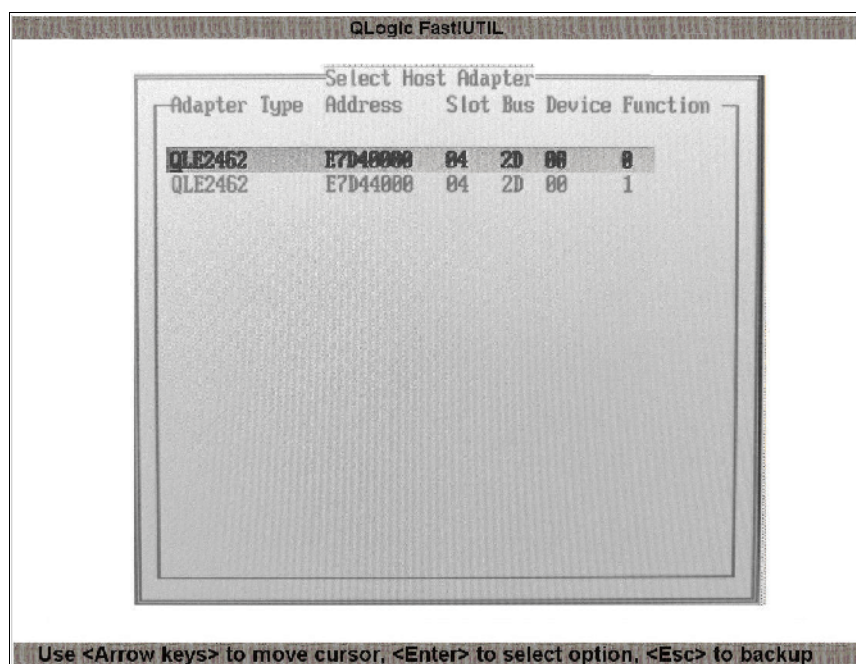

Figure 26-2 Select the FC HBA port
1. To enter Fast!UTIL, power the host server on and press Ctrl+Q when prompted. The first step is HBA port selection. as shown in Figure 26-2.
- Switch to the second HBA port. Return to the Fast!UTIL Options menu (Figure 26-3 on page 642) and choose **Select Host Adapter**. You will see two QLE2462 adapter ports displayed, as shown in Figure 26-2 on page 641. Select the second line and press Enter.